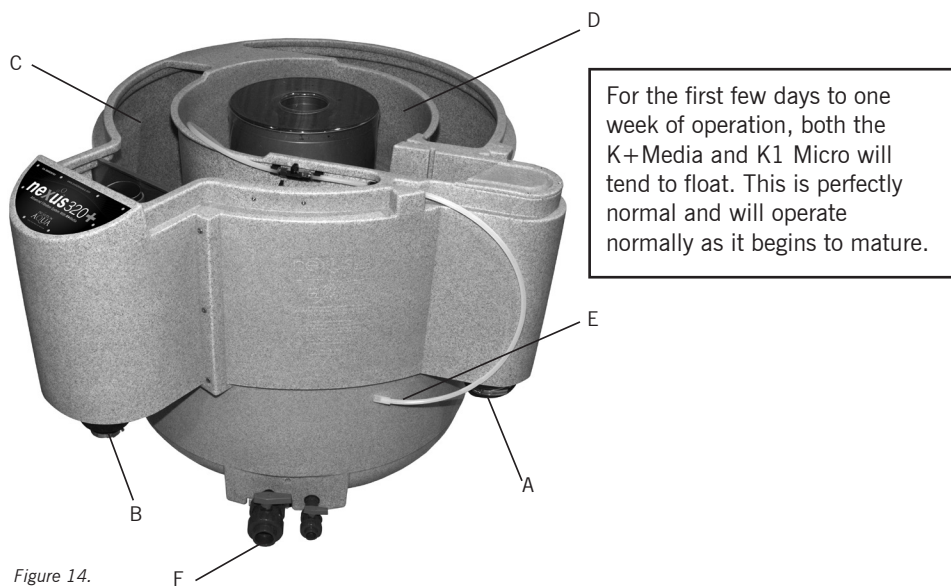

Figure 14.
1. Connect the pipework from your pond to the EazyConnector on the Nexus Inlet (A).
2. Connect your water pump to the 4"- 1½" EazyConnector (B) on the outlet using suitable pipe work. A valve should be positioned between the pump and the Nexus, to isolate the Nexus during cleaning.
3. Pour the 2 x 50L K+Media into the outside chamber (C) of the Nexus (Figure 14).
4. Connect your air pump to the Nexus air inlet (E).
6. Connect the waste valves (F) to your waste outlet.